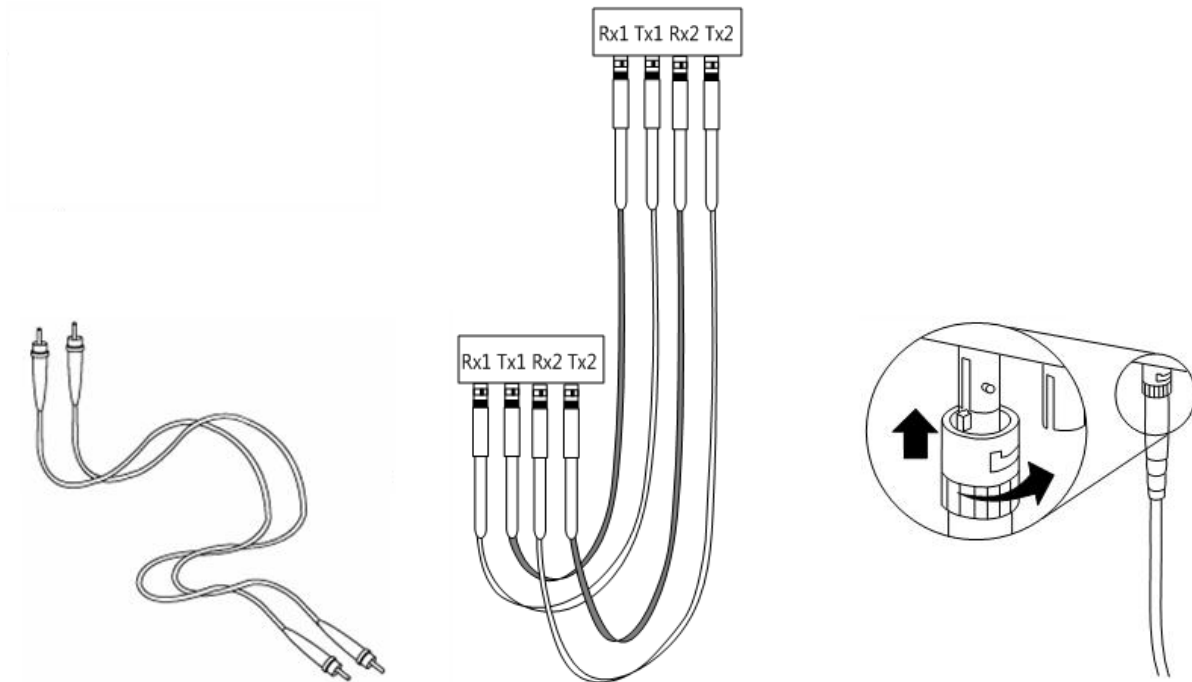

Figure 6-24 Optical Fiber Connection of LK233
The optical fiber cables are cross-connected between the two modules, with one end used for transmitting and the other end used for receiving. The transmitting end (TX) is connected to the receiving end of another LK233 module (RX). And vice versa, as shown in Figure 6-24.